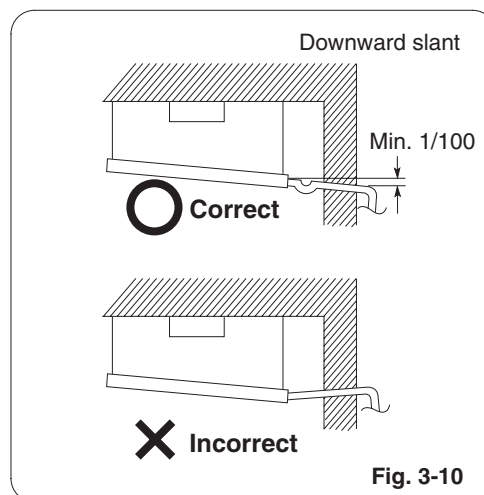

Fig. 3-10
- (3) Ensure the drain pipe has a downward slant (1/100 or more). (See the Fig. 3-10)
- (4) The drain pipe with a trap should be installed away from the indoor unit.
- (5) Do not forcibly install the drain pipe to the indoor unit tubing.